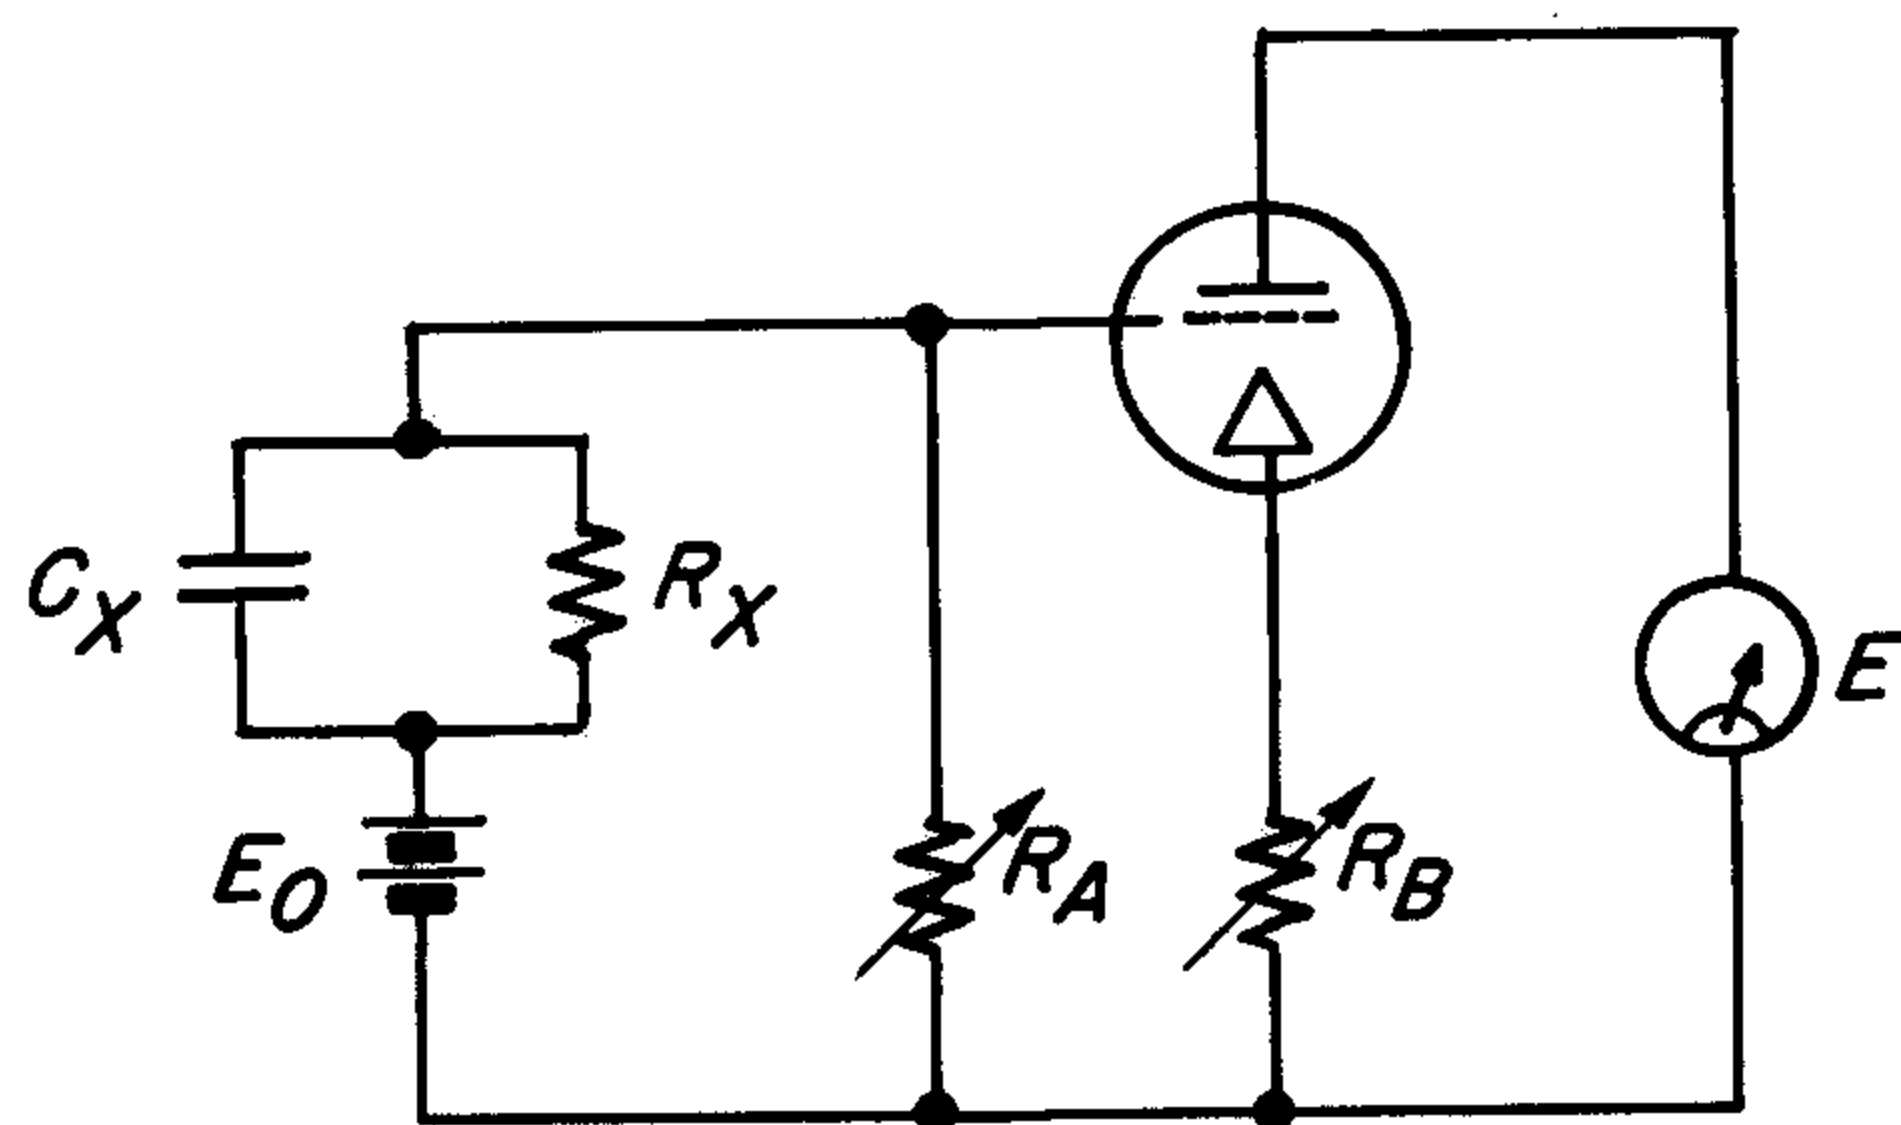

Figure 7. Capacitor Leakage-Resistance Measurement.
Consider for example, the circuit shown in Figure 7. The capacitor C_x will have absorbed about two thirds of its final charge from E_0 in a time determined by the $R_A C_x$ product if there is no appreciable dielectric absorption. This is true of air capacitors. For most dielectrics, the time necessary for the capacitor to absorb the charge is much greater than the $R_A C_x$ product because of interfacial polarization. Consequently, when a potential is applied to a capacitor, the time required for a complete charge can be a matter of seconds, hours, or even days, depending on the dielectric and on the leakage.
4.6.2 When measuring the leakage resistance of a capacitor (see Figure 7), start with the OHMS MULTIPLIER switch (R_A) at zero. With the function switch at either 30 MV (with an external d-c supply) or 90 OHMS (internal supply), advance the OHMS MULTIPLIER switch to obtain a meter reading. Monitor the meter reading until it has decreased to a steady value, that is, until the decreasing charge current is small compared with the leakage current. While the charging current is still appreciable, a change in the OHMS MULTIPLIER setting will, for a short time (about $R_A C_x$ seconds), upset the rate at which the meter reading approaches an equilibrium value.